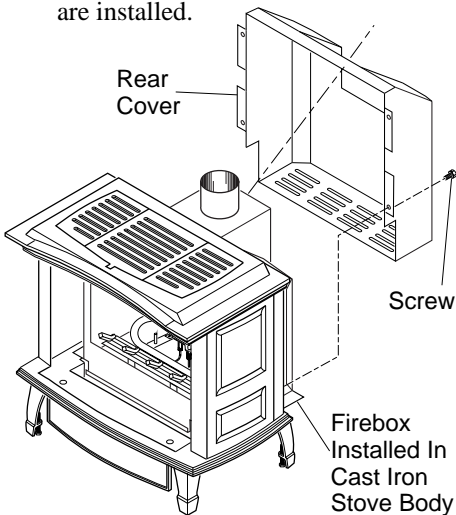

Figure 20 - Installing Rear Cover
2. Using screws provided, attach rear cover to back of stove body. See Figure 20.